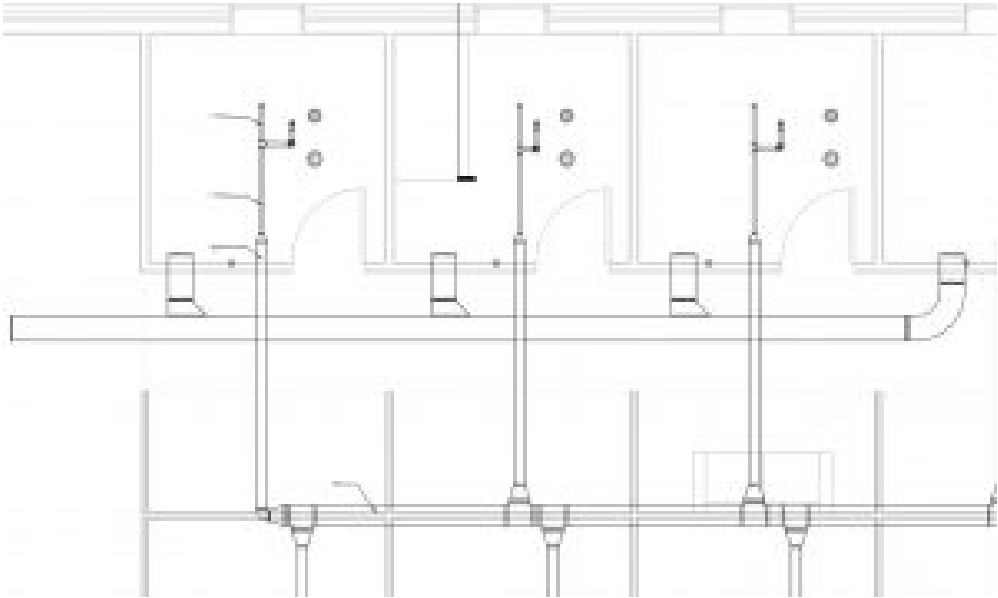

Figure 15.14 Fabricated ductwork shown in plan view
3. Draw ductwork similar to what is shown in Figure 15.14